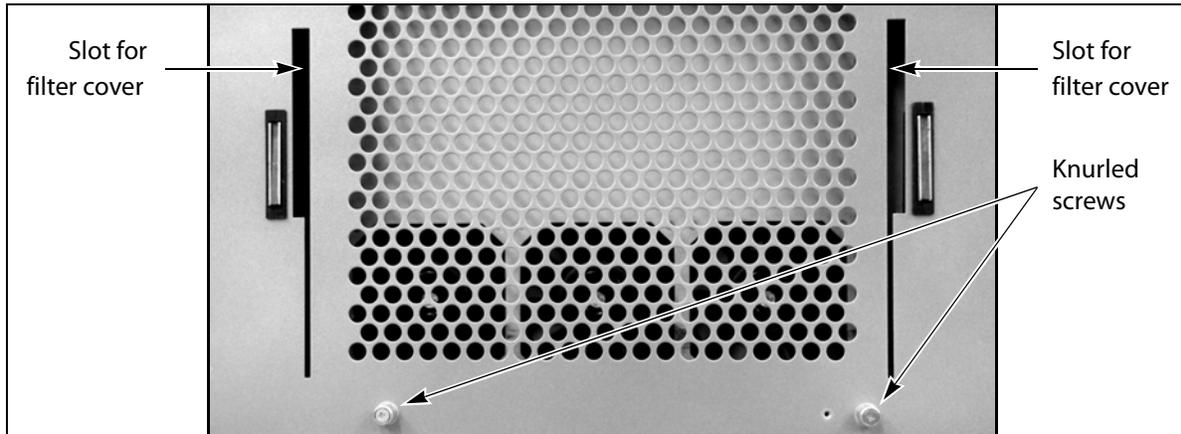

Figure 11 Install the front panel screws.
- Position the tabs on the back of the filter cover over the slots in the front cover (Figure 11).